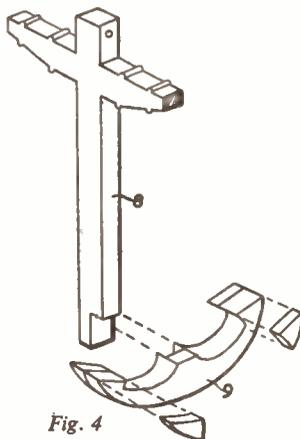
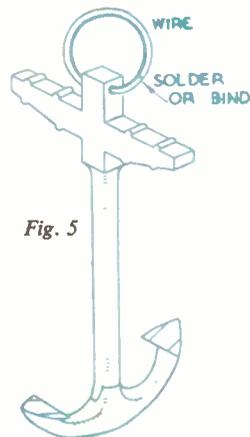

Fig. 4
Fig. 5
The anchor is made up as shown in Fig. 4, from which it will be noted that the two pieces (8) and (9) are halved and glued together. Odd scraps of waste wood should be glued on either side of piece (9) at the ends, and the whole anchor is then shaped as shown in Fig. 5. The stock is drilled to take a ring of wire of about 1in. diameter.
Place the glass block in various positions in the path of the narrow parallel beam of light and note how the bending of the light, as it passes through the block, produces greater and greater displacement as the angle of incidence $A B C$ is increased (Fig. 4).
This is a night light (Fig. 5) arranged to shine on a pocket watch or wristlet watch, so that the time may be easily seen during the night without inconvenience.